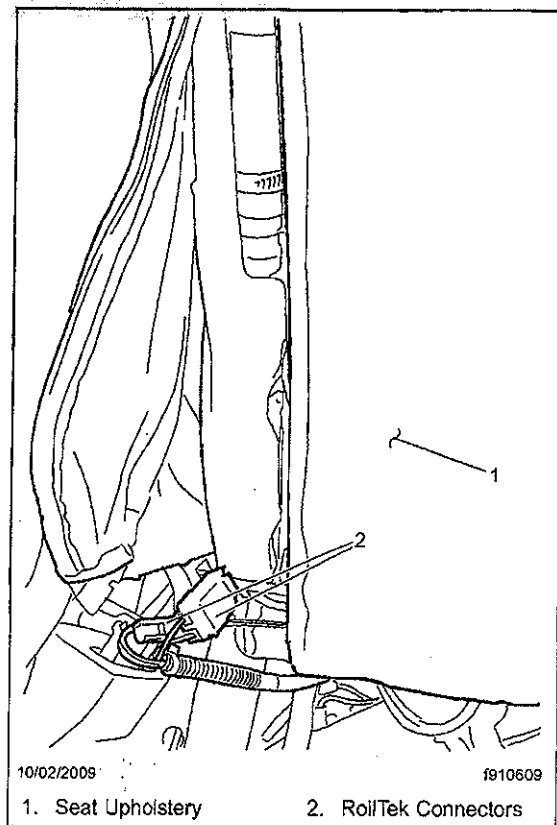

Fig. 3, RollTek Connectors Located Behind Seat Upholstery
8. Disconnect the wiring from the back of the RollTek module, including the connectors located behind the upholstery on the back of the seat. See Fig. 3.